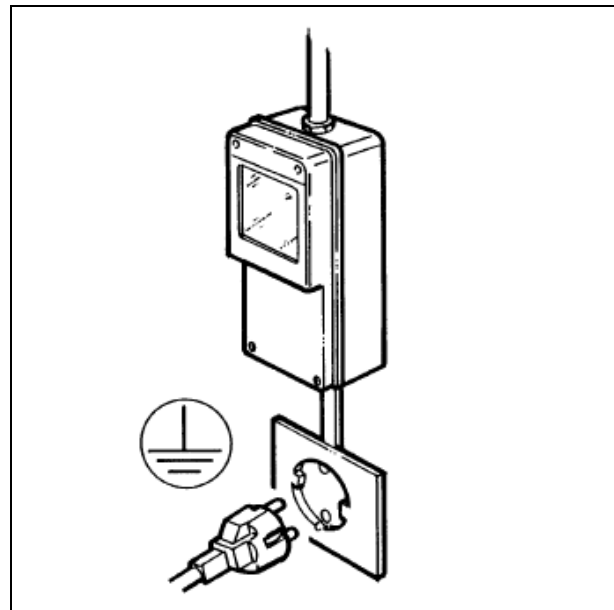

Fig. 1
- b) Rest the machine on a sturdy, horizontal surface making sure it is well ventilated by leaving a gap of 20 cm around it and do not install it near heat sources (fig.1); **we recommend you to maintain a room temperature between 24 and 30°C.**
- The machine's electrical safety is only guaranteed when it is connected to a suitable earth system, structured as provided by the national safety current regulations (fig.1). Therefore, the manufacturer cannot be held responsible for any damage due to failure of the grounding system of the machine.